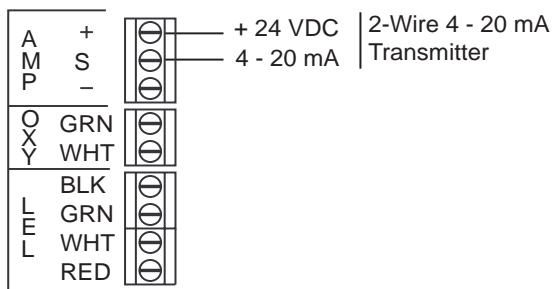

Figure 8: Generic 4 - 20 mA Transmitter Wiring
6. Connect the wires from the transmitter to the AMP terminal strip. Figure 8 below illustrates typical transmitter wiring connections. See the transmitter instruction manual for controller terminal connections. If shielded cable is used, connect the cable shield’s drain wire at the Beacon 110 to the ground stud on the main PCB.